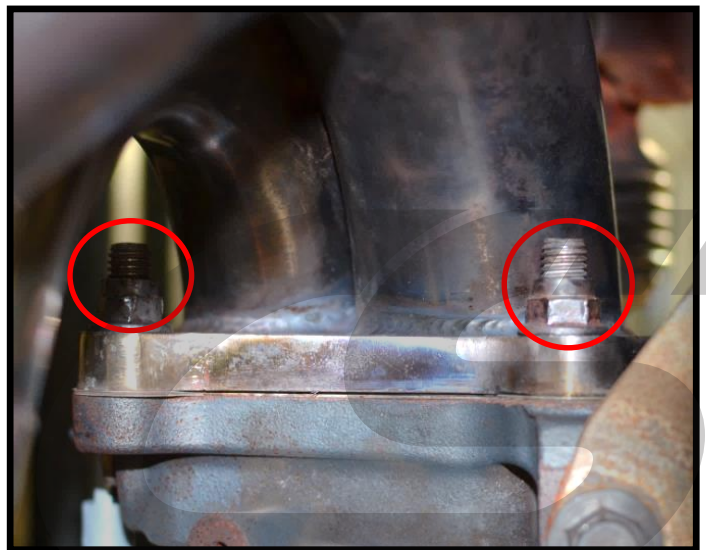

Figure 3h
j) Remove the lower remaining two 14mm nuts from the downpipe, **circled in red** in **Figure 3h**.